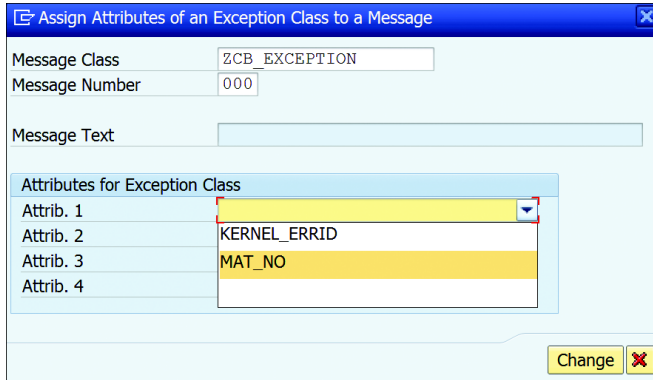

Figure 9.28 Assigning Attributes to Message
4. In the ASSIGN ATTRIBUTES OF AN EXCEPTION CLASS TO A MESSAGE window, provide the MESSAGE CLASS name and message ID (MESSAGE NUMBER). If you want to pass the attribute value to the message, you can select the attribute from the dropdown next to each attribute field. You can pass up to four attributes, as shown in Figure 9.28.